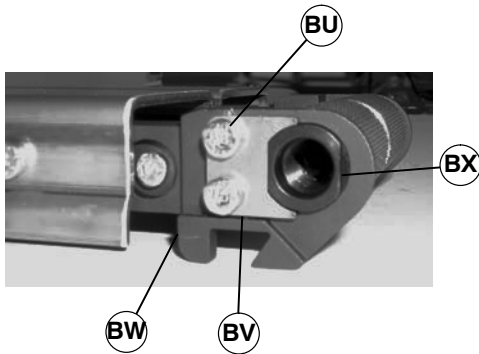
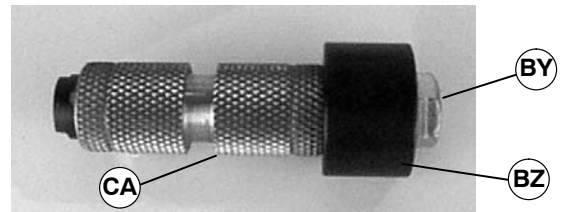

Figure 38
Figure 40
1. Remove two M5 low head screws (BU of Figure 38) and clip (BV) from head plate (BW).
NOTE: If retaining sleeve(s) (BX of Figure 38 and 39) does not slide out::
- Assemble removal tool (part # 25-09☆) (BZ of Figure 40) and bolt (part # 906-278☆) (BY) on spindle (CA), as shown
- Tighten bolt (BY) to remove bearing sleeve (BX of Figure 38 and 39) from spindle (CA of Figure 40).